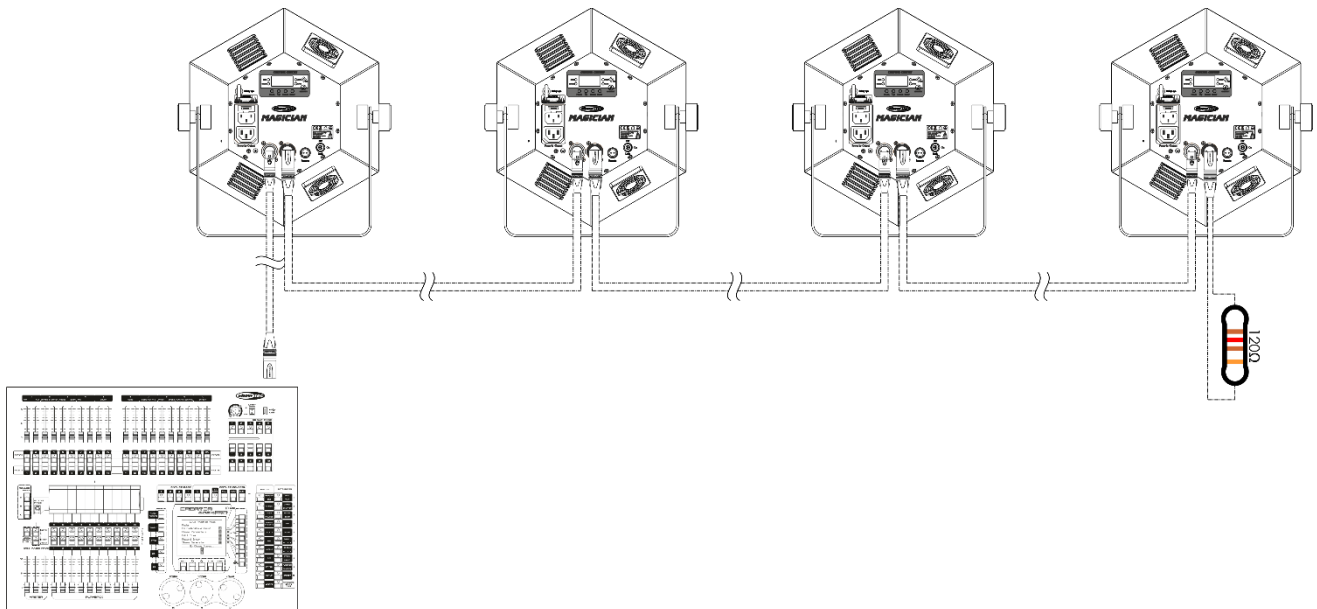

Fig. 06
- 04) Link the units as shown in Fig. 06. Connect the first unit's DMX "out" socket with the second unit's "in" socket, using a DMX-signal cable. Repeat this process to link the second, third and fourth units.